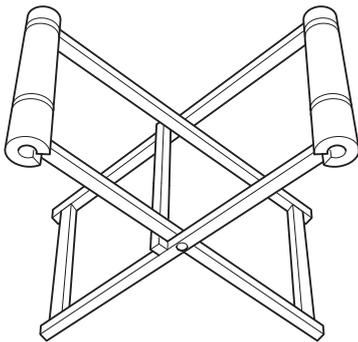

Fig 7. Glass Stand
- 2 After checking for size, remove the new glass and place it on a purpose made glass stand. → Fig 7. (□ B-53).